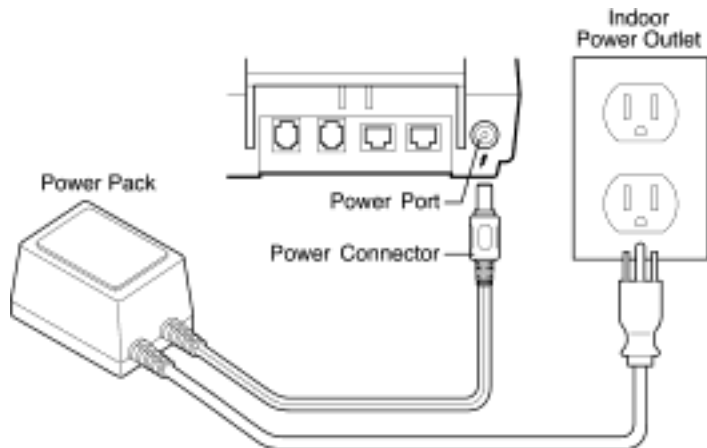

Figure 14 Omni 3200 Power Pack Connection
1. Insert the barrel-shaped connector on the end of one power pack cable into the round power port on the back panel of the terminal (see Figure 14). The power port is identified by the 'electrical power' icon, shown to the right.